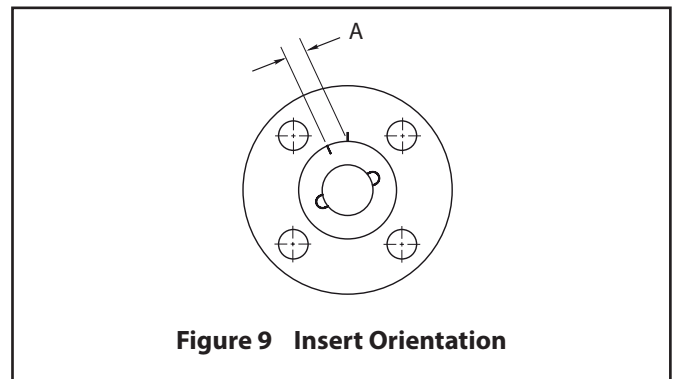

Figure 9 Insert Orientation
8. Insert the body seal (6) and gently press it into the groove in the body.
9. After applying a lubricant compatible with the media to the insert threads, screw the insert (2) into the body and tighten to the required torque shown in **(Table 2)**. If a torque-wrench is not available, tighten the insert the same number of turns as in Step 4 until the marks match the "A" dimension shown in **(Table 2)** and illustrated in **(Figure 9)**.